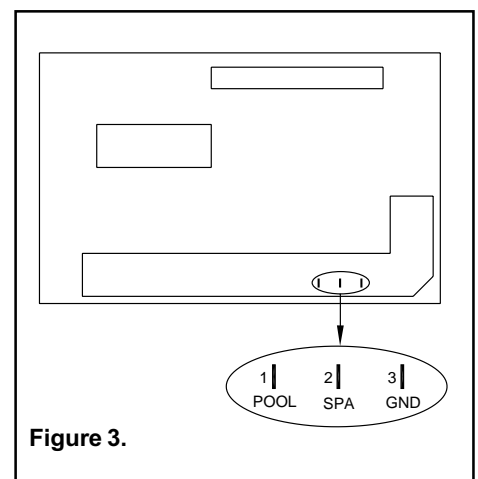

Figure 3.
3. With the heater in the "OFF" mode, locate the three tabs on the back of the temperature controller as viewed from the backside, see Figure 3.